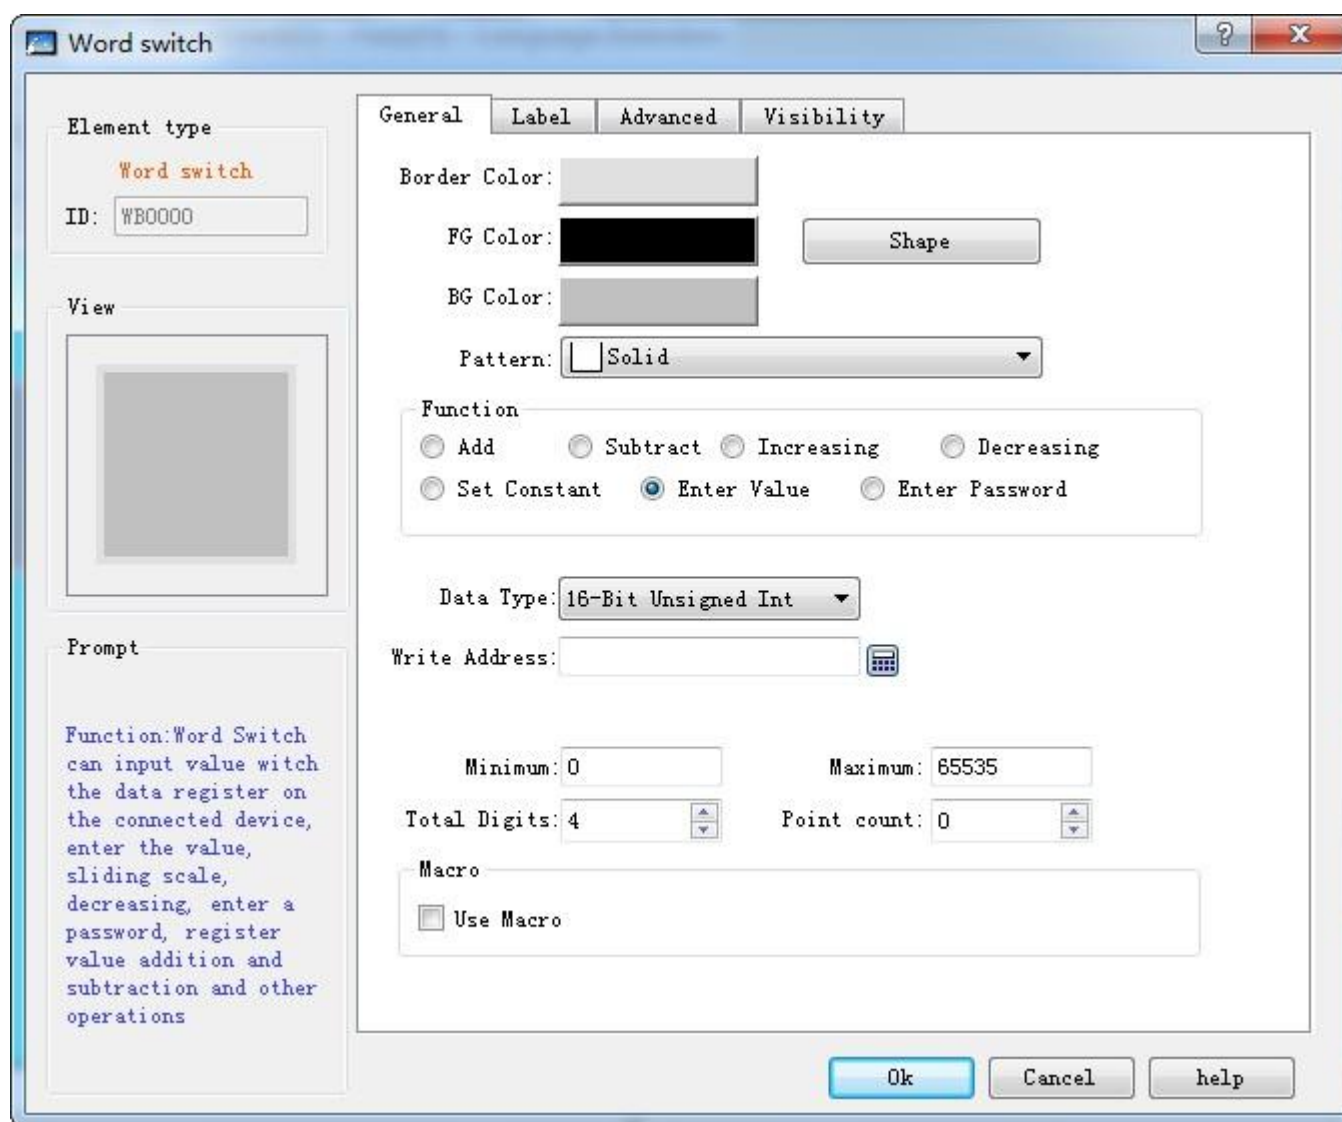

Figure 4-76 Word Button dialog box
- Select the Word Button icon  on the toolbar, then the following dialog box is displayed, as shown in Figure 4-76: